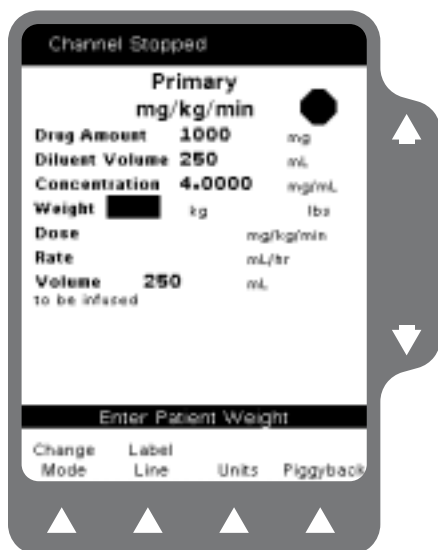

Figure 5-20 Enter Weight
6. Highlight the Weight field and enter the patient's weight using the numeric keypad (Figure 5-20).